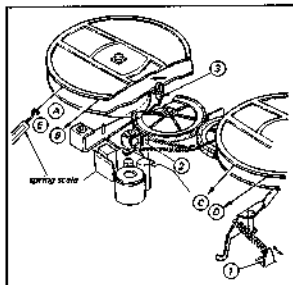

Fig. 4-13. Brake torque adjustment
3. Set the Function Lever to STOP. Check that the Right Rewind Idler is clear of the Idler Stopper by 0.5 to 1 mm. See Fig. 4-13. If this condition does not exist, bend the Idler Stopper with a pair of pliers.
1. Set the Function Lever to STOP. Place an empty reel with several turns of string wrapped around the hub onto the Supply Reel Table as shown in Fig. 4-13. Attach the string to the spring scale. Pull the scale at a speed of approximately 4 inches/sec. Check the reading for brake torque. It should be more than 800 g-cm.
2. Repeat the above brake-torque checks for B, C, and D as indicated in Fig. 4-13. The brake torques should be less than 400 g-cm for the direction of B and C and more than 800 g-cm for the direction of D.
indicated by E in Fig. 4-13. It should be more than 800 g-cm.